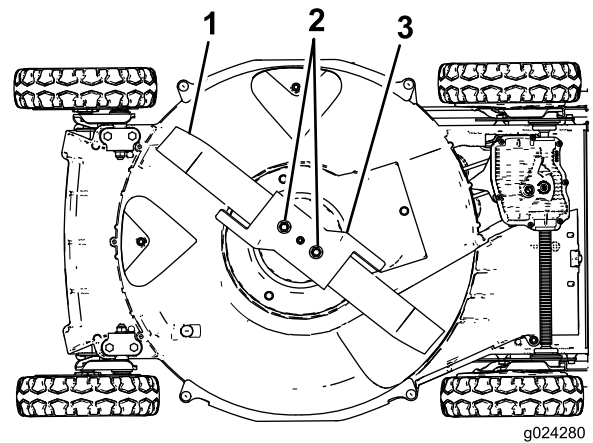

Figure 26
8. Use your finger to coat the gasket on the new oil filter with oil (Figure 26).
5. Tip the machine onto its **right** side (air cleaner up) as shown in Figure 26.